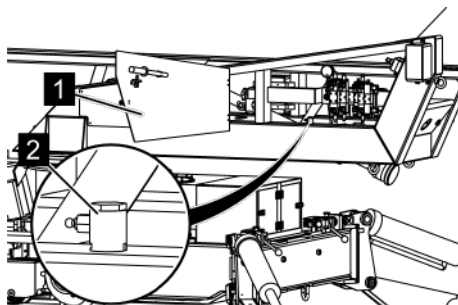

Fig. 148: Slide coupling
3. ➤ *Remove the door (Fig. 148/1) and remove the slide coupling (Fig. 148/2).*